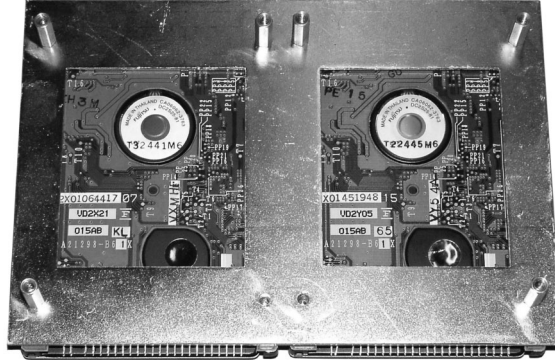

Fig. M3-8: Completed hard drive subassembly
5. Screw the remaining ¼-inch standoffs through the drive mounting plate into the top-left, top-right, and bottom-**left**-threaded holes with the spacers. When done, the hard drive subassembly should look like **Fig. M3-8**, below.